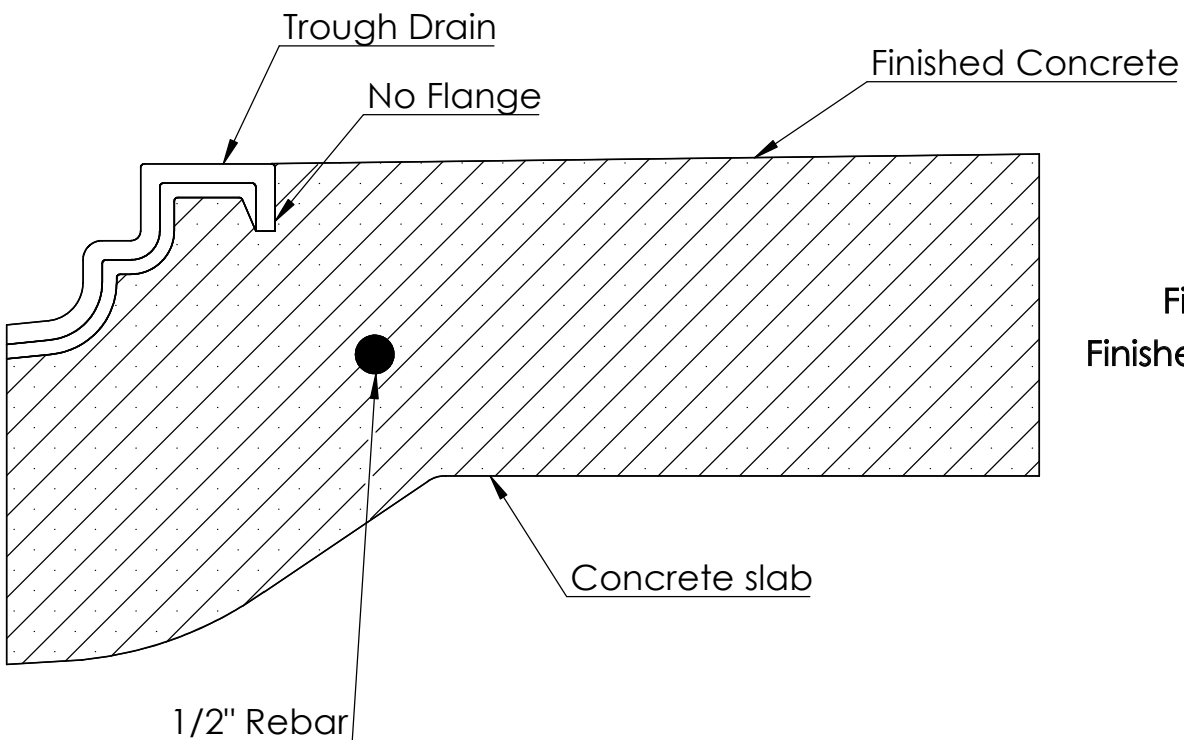

Figure 6
- g. Float concrete to top of drain for finished concrete applications as shown in figure 6.